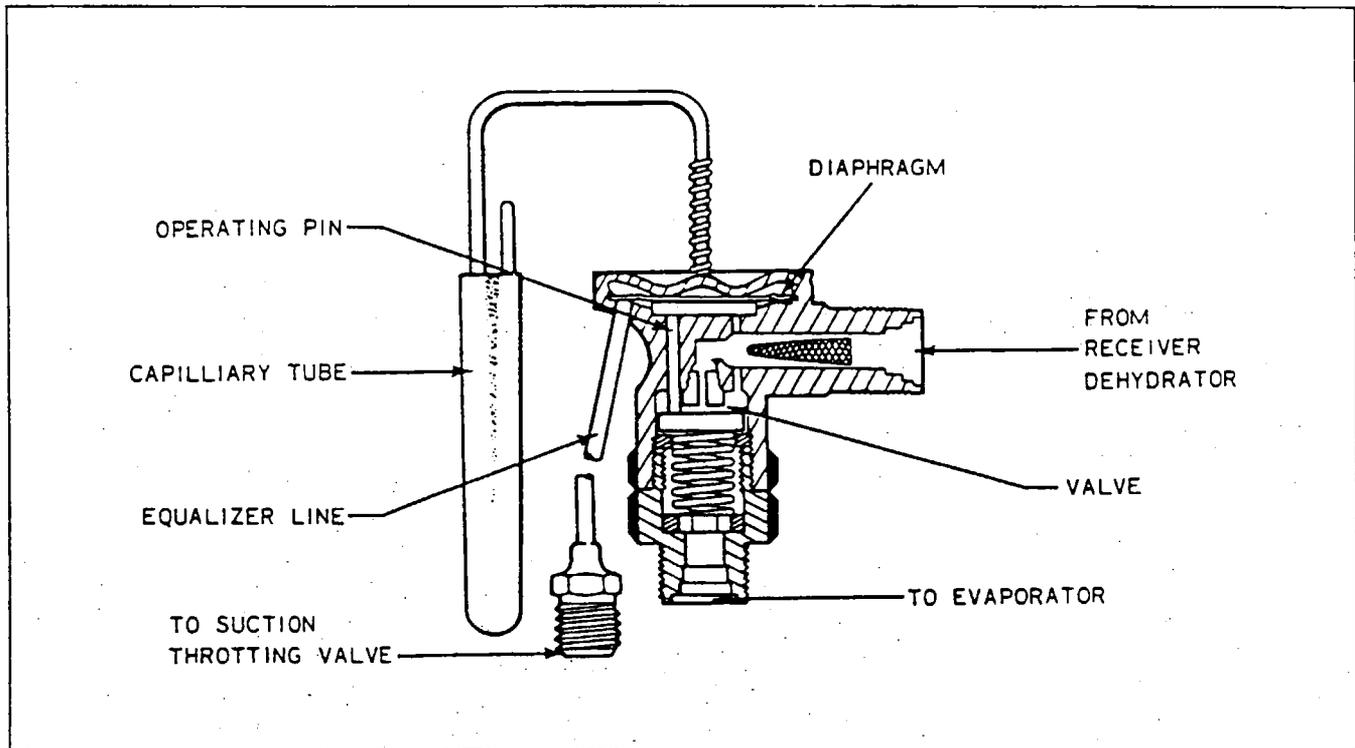

Figure 21-32. Expansion Valve.
**EXPANSION VALVE.** (Refer to Figure 21-32.)